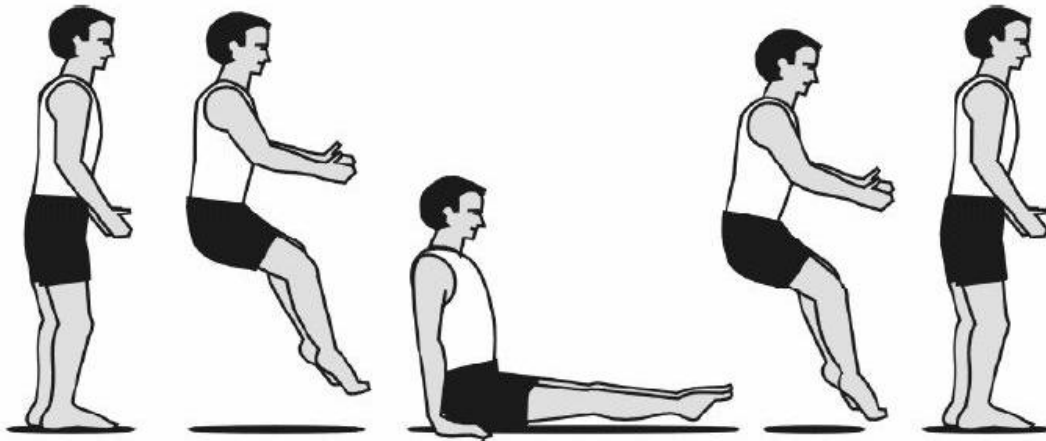

Figure 5 Seat Drop
- (c) Push on the bed with your hands to rebound up to your feet (see Figure 5).